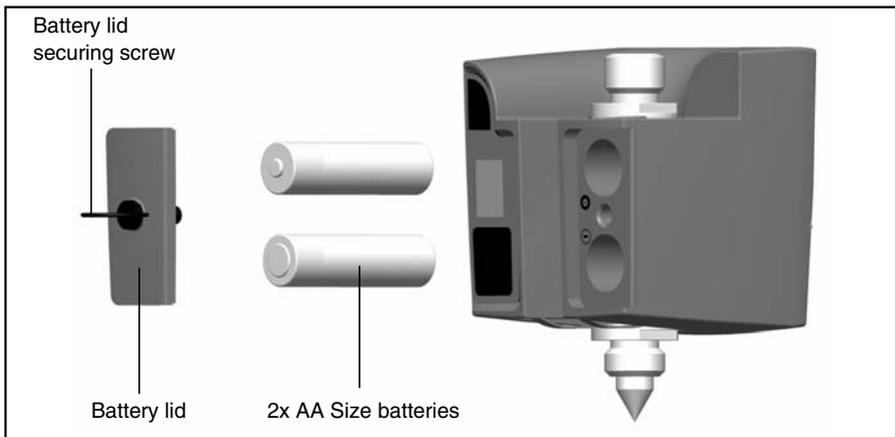

Figure 6.47 Target ID battery change
4. Fit the battery lid and then secure it by turning the screw a quarter of a turn clockwise. See figure 6.47